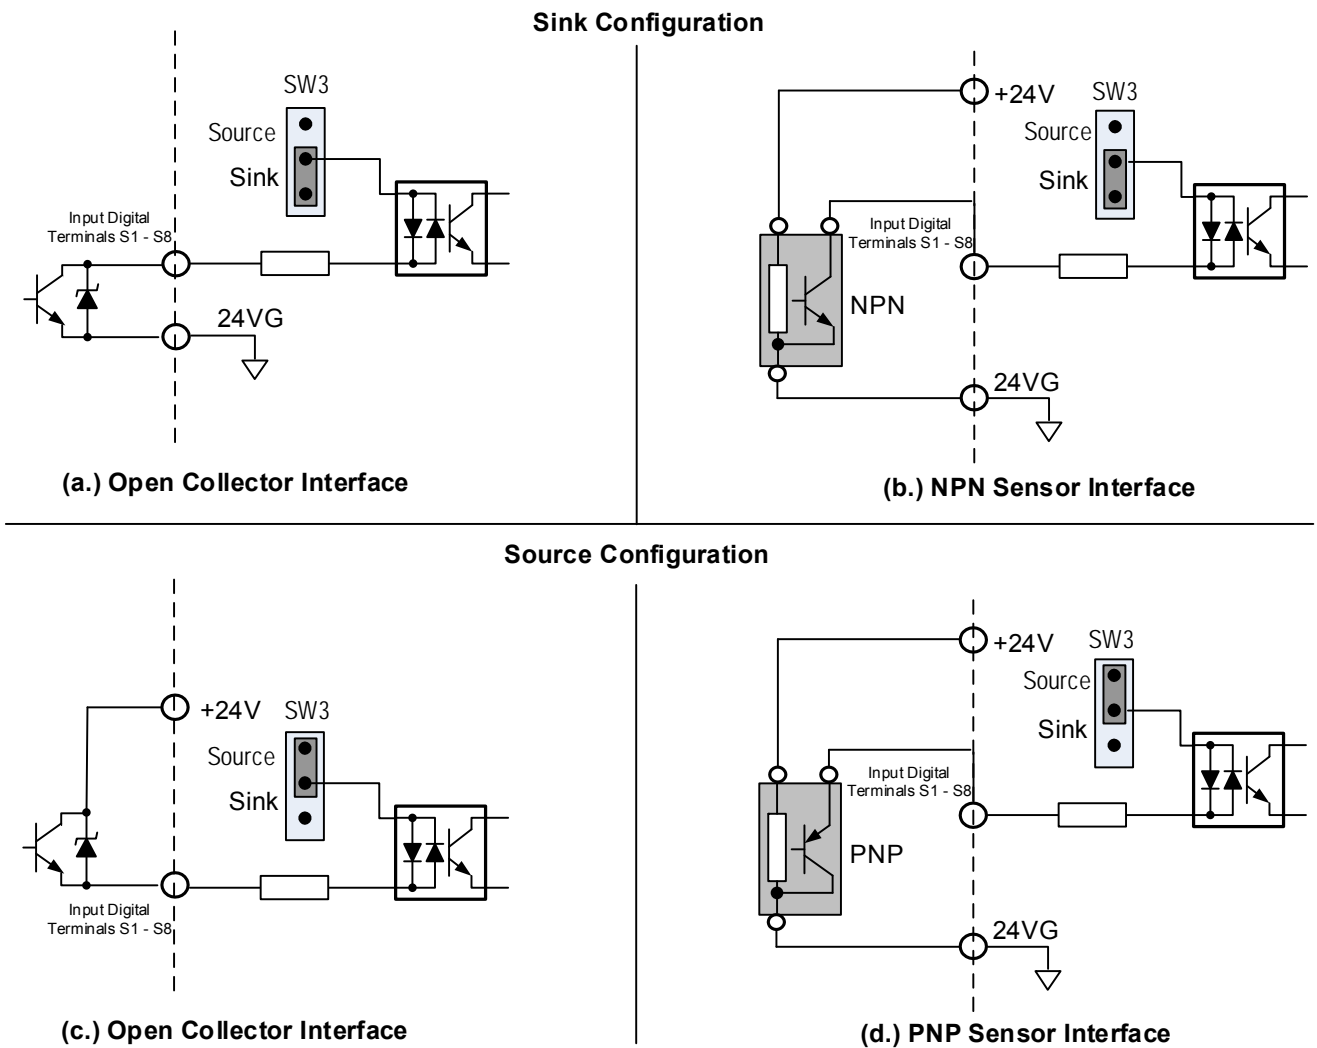

Fig. 3.17.3 Sink / Source Configurations
- (5) In Section 3.8 the control boards referenced have a jumper SW3 that can select the digital input to terminals ① - ③ to be set for SINK or SOURCE. The following Fig. 3.17.3 (a.) – (d.) shows examples for the various SINK / Source interfaces.